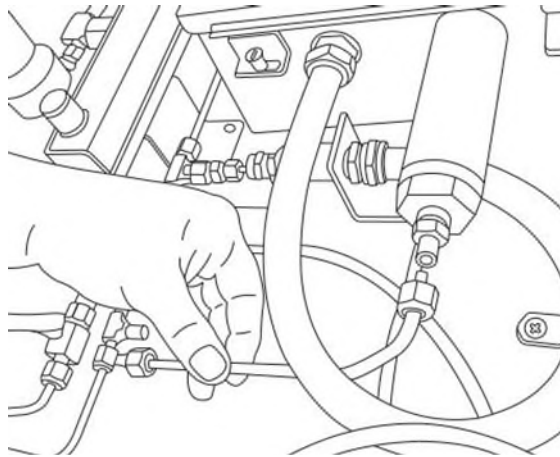

Figure 81. Removing the tubing
4. Remove the tubing between the pressure sensor and T-fitting. Refer to Figure 81.